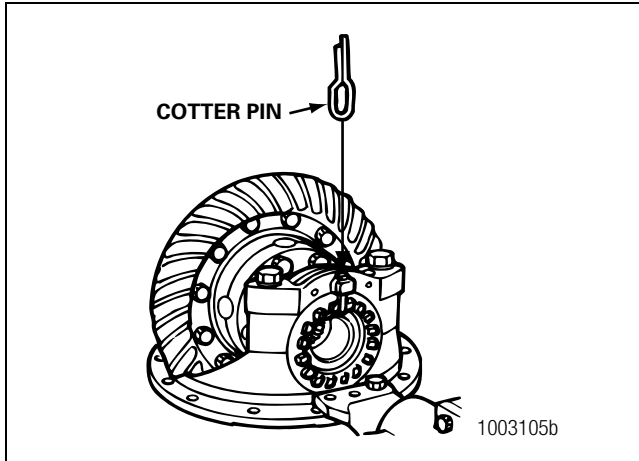

Figure 5.49
7. Install the cotter pins between the lugs of the adjusting ring and through the boss of the bearing cap. Bend the two ends of the cotter key around the boss. Figure 5.49.